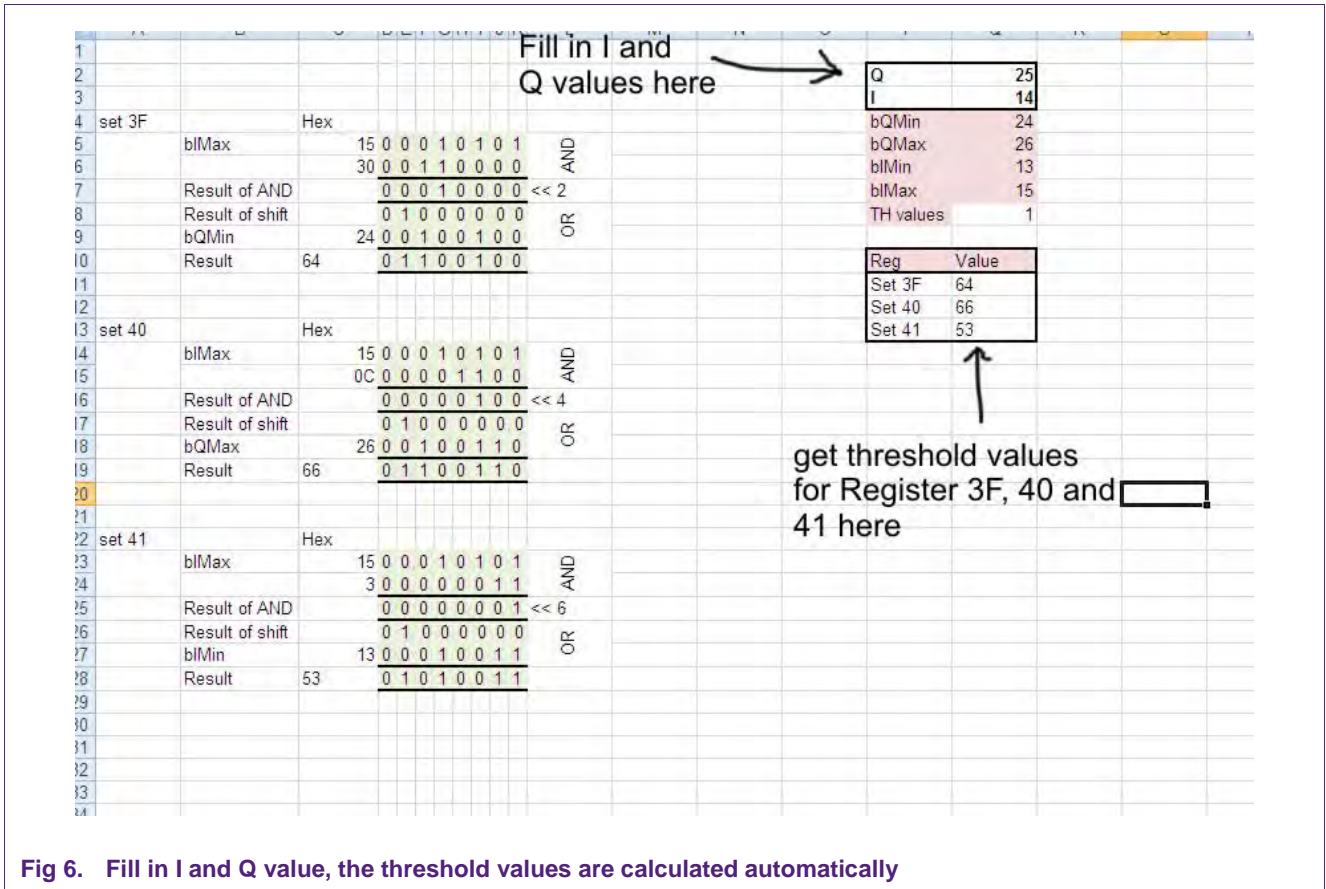

Fig 6. Fill in I and Q value, the threshold values are calculated automatically
- Open the LPCD.xls Excel sheet and insert these values. The threshold values will be calculated accordingly for register 3F, 40 and 41. See Fig 6 for more details.